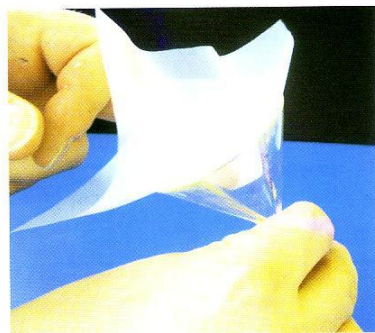

Figure 3 Placing the mesh square in a glass filter funnel. Push down.
2. Use either a small glass or plastic filter funnel and a square of 60 µm mesh approx 60 mm square (Fig.3).
3. Push the 60 µm mesh square into the filter funnel (Fig.3).